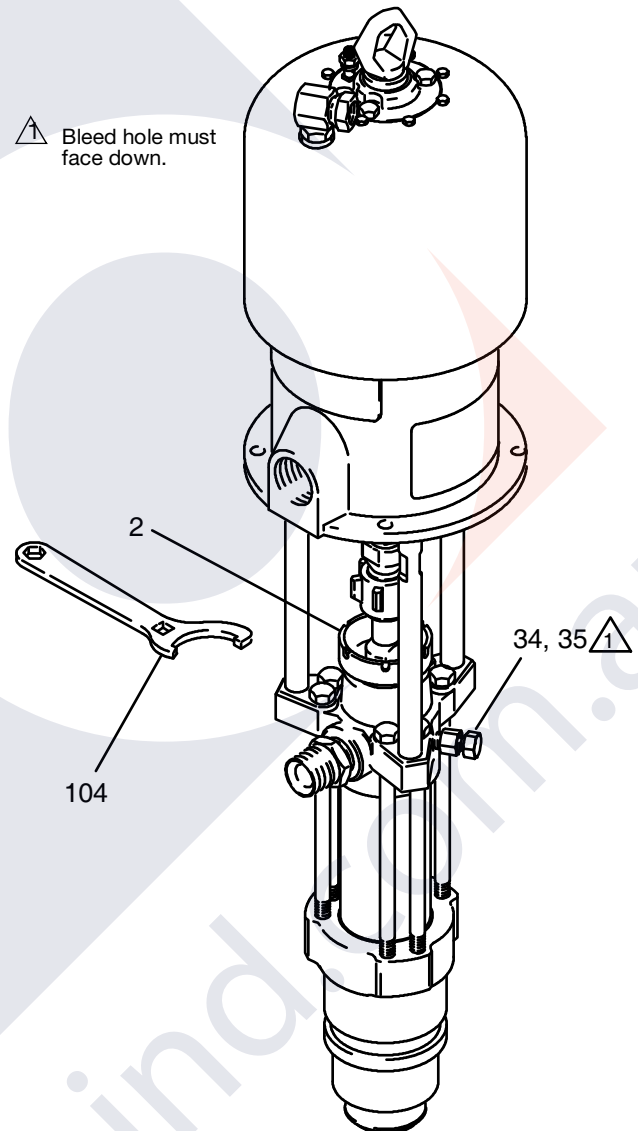

FIG. 5
Fill the packing nut/wet-cup (2) 1/3 full with Graco Throat Seal Liquid (TSL) or compatible solvent. See Fig. 5. Using the supplied wrench (104), adjust the packing nut weekly so it is just snug; do not overtighten. Follow the **Pressure Relief Procedure** above before adjusting the packing nut.
If the pump fails to prime properly, open the bleeder valve plug (35) slightly. Use the bleed hole, on the underside of the valve body (34), as a priming valve until the fluid appears at the hole. See Fig. 5. Close the plug (35).